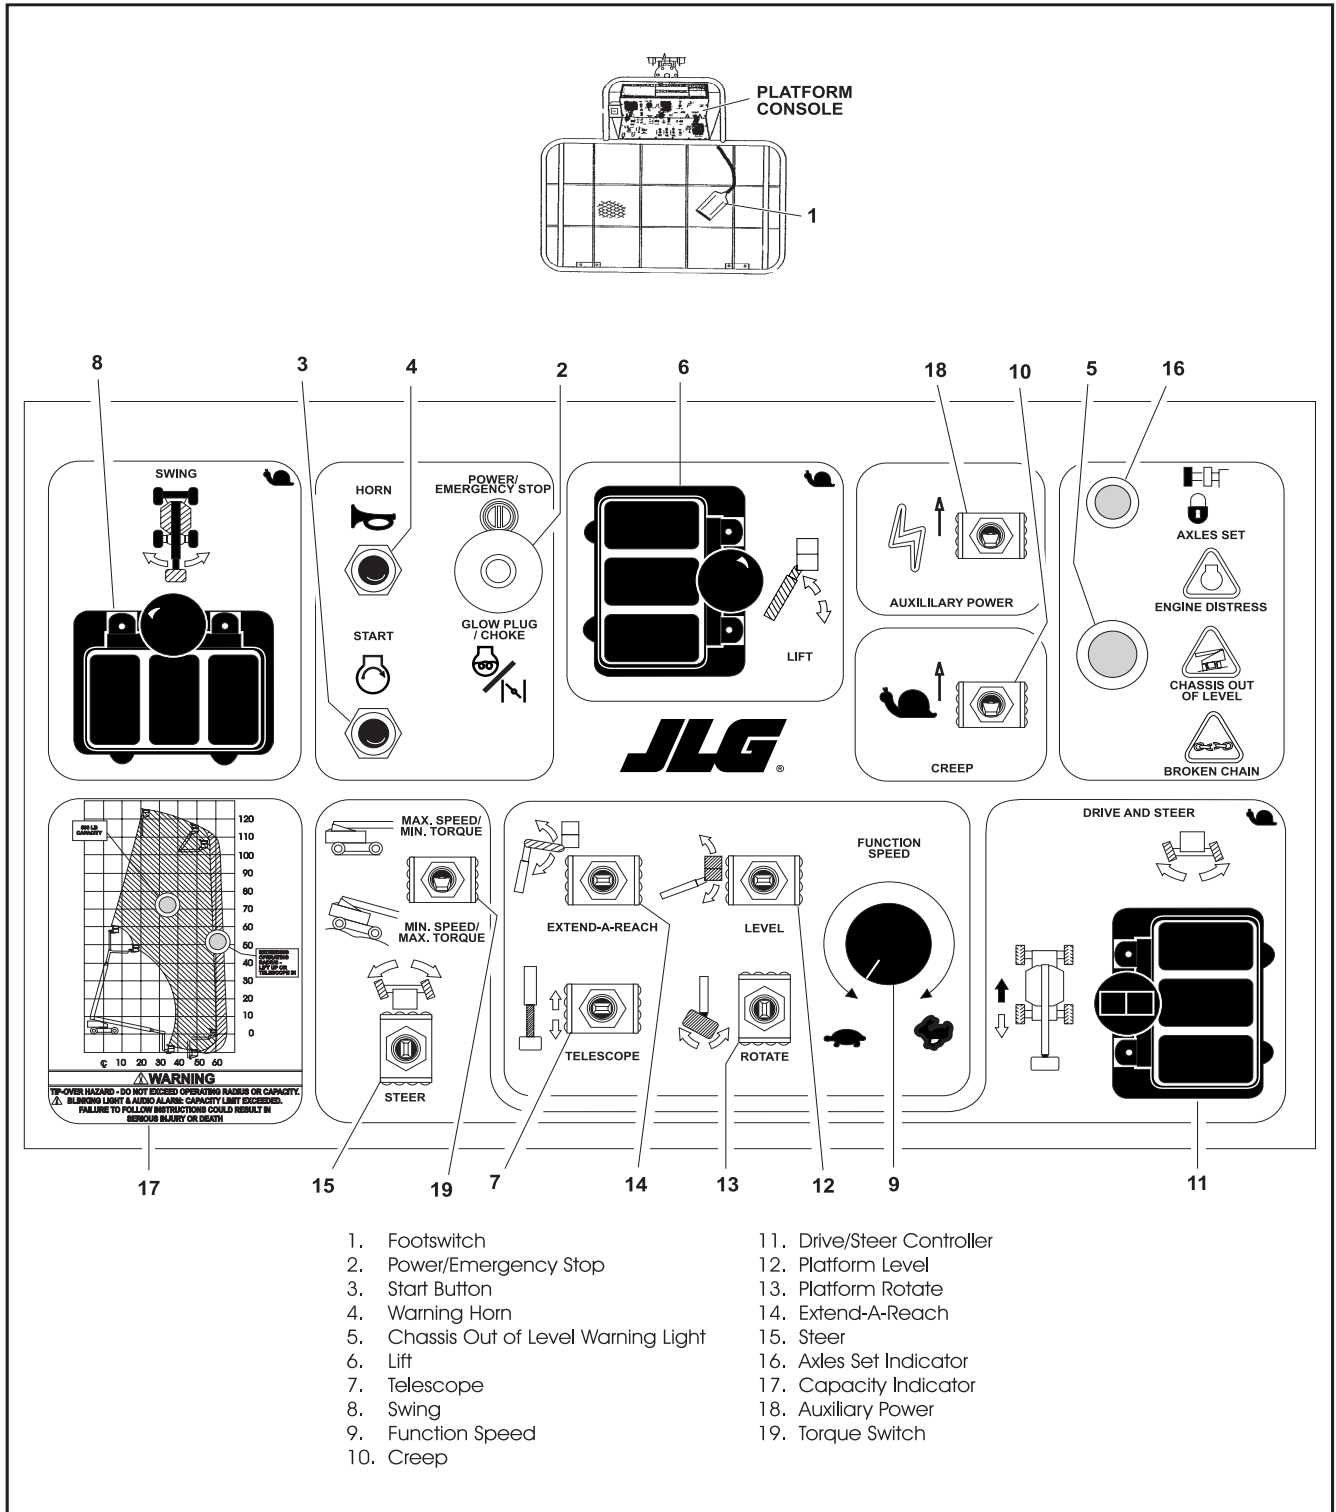

Figure 3-8. Platform Station - May 1994 to Present
**NOTE:** *Placards and Decals can be ordered by using the part numbers located by each placard or decal. (See Figure 3-8. Placards, Decals, and Part Numbers Location.*